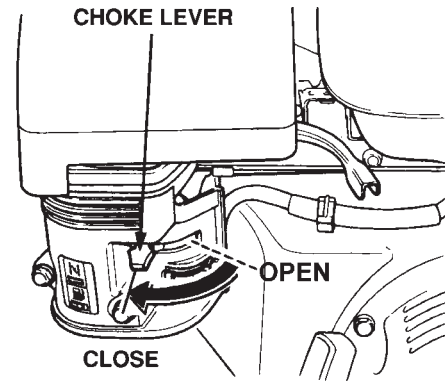

Figure 26. Engine Choke Lever
4. Place the **Choke Lever** (Figure 26) in the "OPEN" position
6. If the engine has started, slowly return the choke lever (Figure 26) to the **CLOSED** position. If the engine has not started repeat steps 1 through 5.